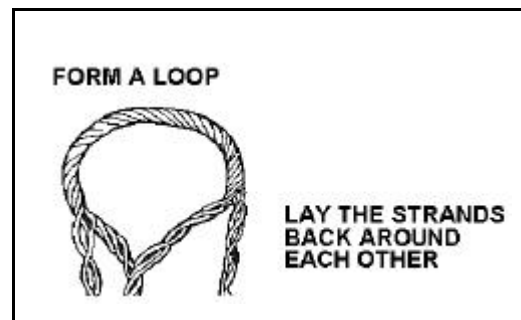

Figure 12-43. Making a Hasty Eye (Molly Hogan) Splice, Step 2
- **Step 2.** Use the two sections to form a loop of the desired diameter for the eye. Then, lay the strands back around each other to form the eye (Figure 12-43).